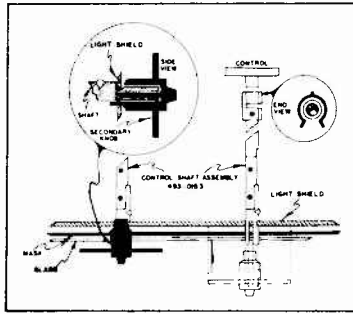

FIGURE 2
2. Volume, Contrast, Brightness and HaloLight Knobs. See Figure 2.
- B. Remove screws (2) securing escutcheon to cabinet. Remove escutcheon.
9. To replace chassis, reverse the above procedure, engaging secondary controls by pressing ends of shaft assemblies over control shafts. See Figure 2.